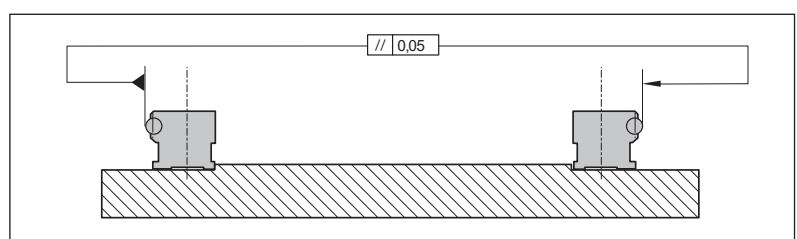

Fig. 77: Checking the parallelism of the guide rails
- Check the parallelism ➡ Fig. 77